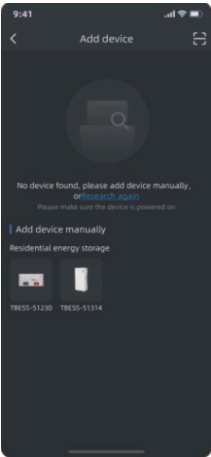

Figure 1
- 1)Figure 1: Confirm that the device has been turned on, try again near the device.